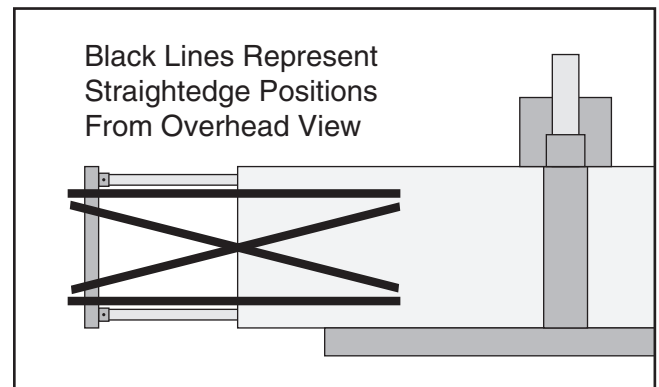

Figure 53. Straightedge positions for checking infeed/outfeed table extension parallelism.
3. Place straightedge in the positions shown in **Figure 53**. In each position, straightedge should touch table extension handle and sit flat on table.